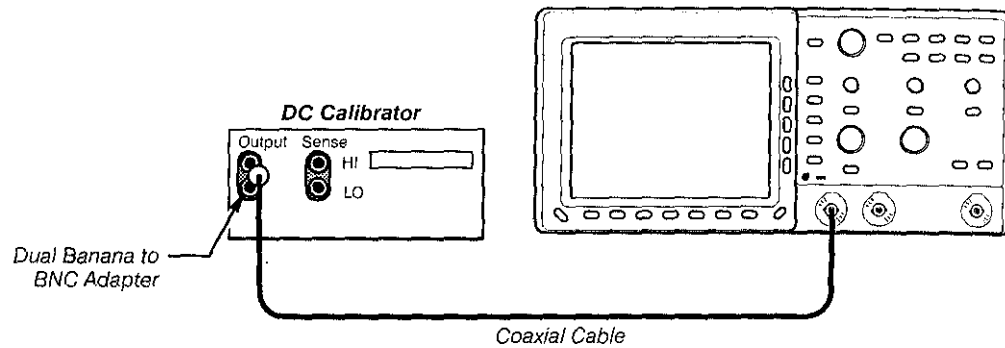

Figure 6-4: Hookup for DC Voltage Measurement Accuracy Check
2. Connect the output of a DC calibration generator through a dual-banana connector followed by a 50 Ω precision coaxial cable to **CH 1**, as shown in Figure 6-4.